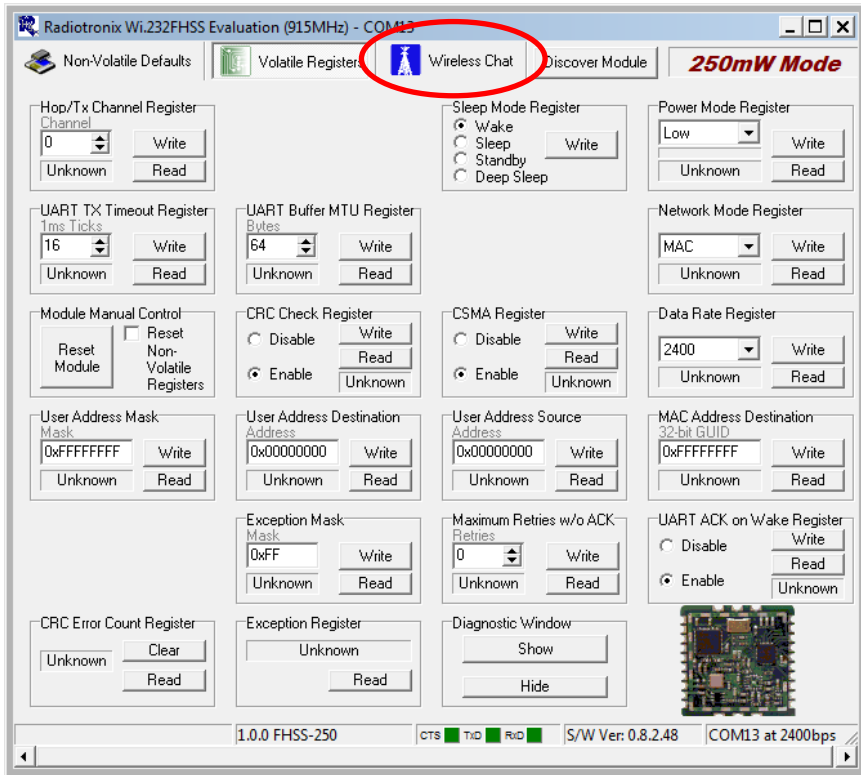

Figure 8: 250 Series Transceiver Development System Software Volatile Registers Tab
- The software opens on the Volatile Registers tab. Click on the “Wireless Chat” tab as shown in Figure 8.